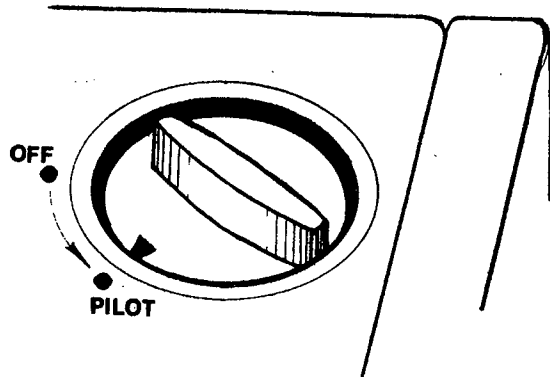

FIG. 8
2. Turn the control knob counterclockwise to PILOT/IGN and depress knob for five (5) seconds. (Figure 8)
**NOTE:** The first time that the heater is operated after connecting the gas supply, the control knob should be depressed for about thirty (30) seconds. This will allow air to bleed from the gas system.